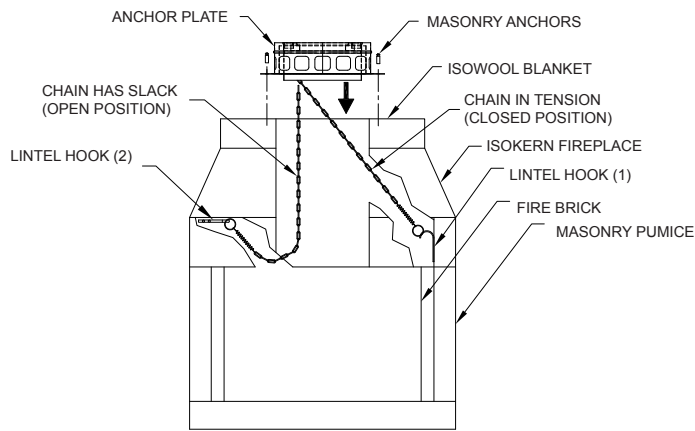

FIG. 1
It is important that the surface of the Isokern chimney has a level surface on which to attach the Anchor Plate. If the top of the Isokern does not have a level surface, then it will need to be modified accordingly. Center the Isowool blanket over Isokern Top Plate hole and trace outline of hole with a pen or marker. Cut a hole in the blanket to match the hole in the Isokern top plate. Center the Isowool blanket over the Isokern Top Plate flue opening, then center anchor plate over the Isowool blanket. If a Damper is used, make sure nothing interferes with the damper plate movement. Secure the Anchor Plate with four (4) masonry anchors. See **FIG.1**. If the Anchor Plate with Damper is installed the damper should swing freely. When the chain is pulled down, the damper should close (horizontal position). When the chain is released (no weight on the chain), the damper should swing open (vertical position). To install lintel hook (1), place the damper plate in the closed (horizontal) position. Determine and mark the position of the lintel hook (1). The lintel hook (1) should be mounted to the masonry pumice and mounted in a position so as to provide a small amount of tension in the spring attached to the chain. See **FIG. 1**. The tension is needed to prevent the damper plate from rattling when closed. Mount the lintel hook to masonry pumice with the screws provided. It is recommended not to mount the lintel hooks to the fire brick because the chain and spring will be visible when not in operation. Determine and mark the position of the lintel hook (2). The lintel hook (2) should be mounted to the masonry pumice and mounted in a position so as to provide slack in the chain. With no tension to the chain, the damper will remain open for operation, but removed from direct path and out of site during operation. See **FIG. 1**. Do not obstruct openings in the anchor plate.